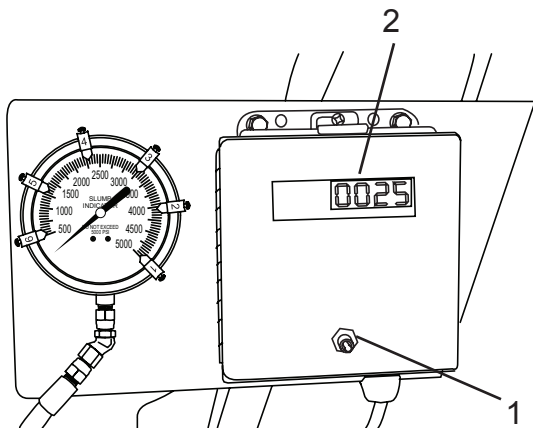

Figure 128
1. Before discharging, press the reset switch (Figure 128, Item 1) to reset the counter display (Figure 128, Item 2).